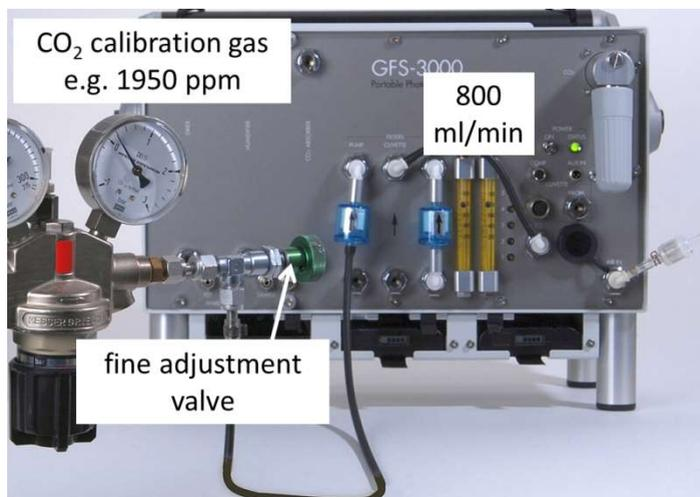

Fig. 59: System during absolute CO2 span calibration.
- After the pump is off, disconnect the filter labeled PUMP. The CO2 calibration gas must be connected to the upper connector labeled FILTERS PUMP. The filter from the spare kit should be used in the feed tube of the calibration gas. Carefully adjust the pressure reducer and fine adjustment valve of the tank so that the flow indicators are at 800 ml/min. Valve 5 can be used for additional fine adjustment of the total flow. Use valve 1 to equalize the flow between analyzer reference and sample until both indicators are at 800 ml/min (see Fig. 59).
The system can be setup as shown in Fig. 59 for the CO2-span calibration, but with a nitrogen cylinder or technical air or even CO2 calibration gas. Switch the system into MP mode and wait until H2Oabs has stabilized on a low value. Then use the *Calibration/Maintenance* → *Analyzer(Control Unit)* → *H2O zero EXPERT MODE* to calibrate the zero value of the H2O analyzer. For saving pressurized gas, use silica gel to dry the system before using gas from the cylinder.